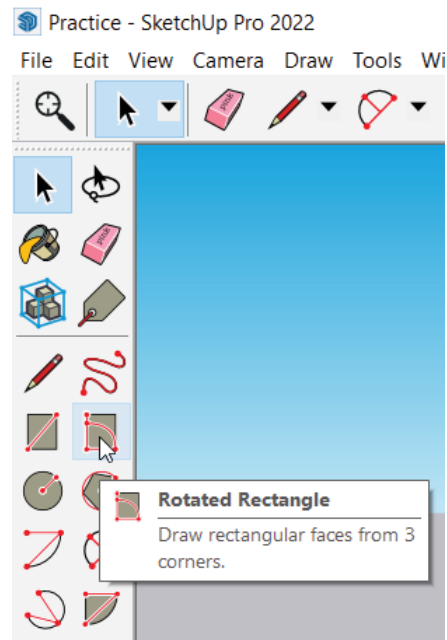

Figure 3-4: Hover the mouse over a tool icon to see its screen tip.
Explore! Hover the mouse over each icon to read its *screen tip*, a pop-up menu that describes what each tool is and what it does (Figure 3-4) to get familiar with the icons. Click on the Menu items and read the submenus. Shortcut fans can find a list of keys that activate tools at **Window**>**Preferences**>**Shortcuts** (PC) or **SketchUp**>**Preferences**>**Shortcut** (Mac). Now let's play with some of those tools.